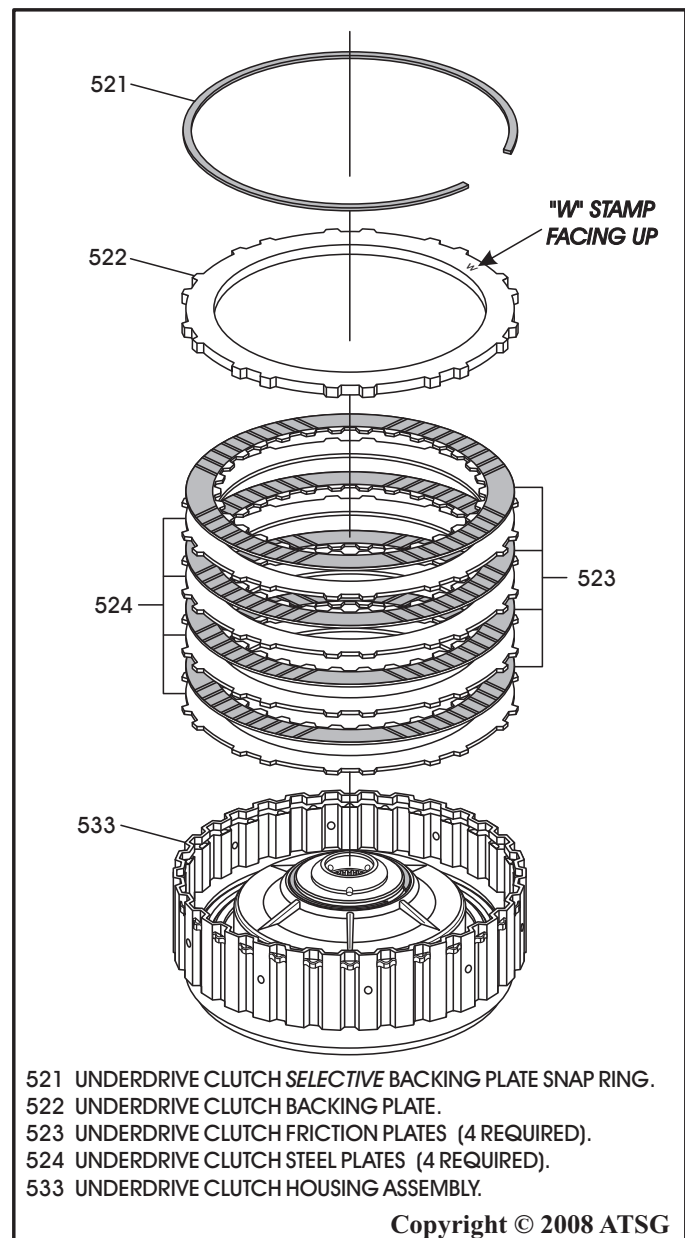

Figure 124
12. Install the underdrive clutch plates beginning with a steel plate and alternating with friction plates, as shown in Figure 124.
13. Install the underdrive clutch backing plate, as shown in Figure 124, with the "W" stamp in plate facing up, and oriented the same as the steel plates.
14. Install the underdrive clutch backing plate selective snap ring, as shown in Figure 124.